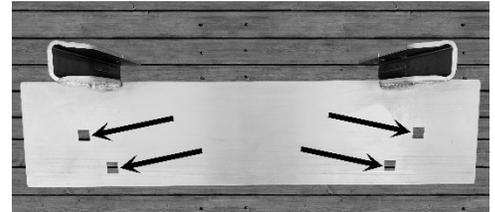

Figure 1
1. Mark locations to drill the holes for the bolts in the dock using the slide as a template. Using a 9/16" drill bit, drill all the holes required. Mount slide to the vertical portion of the dock using (4) 1/2"X5" carriage bolts, (4) 1/2" washers, and (4) 1/2" locknuts and to the deck of the dock using (2) 1/2"X3" carriage bolts, (2) 1/2" washers, and (2) 1/2" locknuts. See **Figures 1 & 2**.